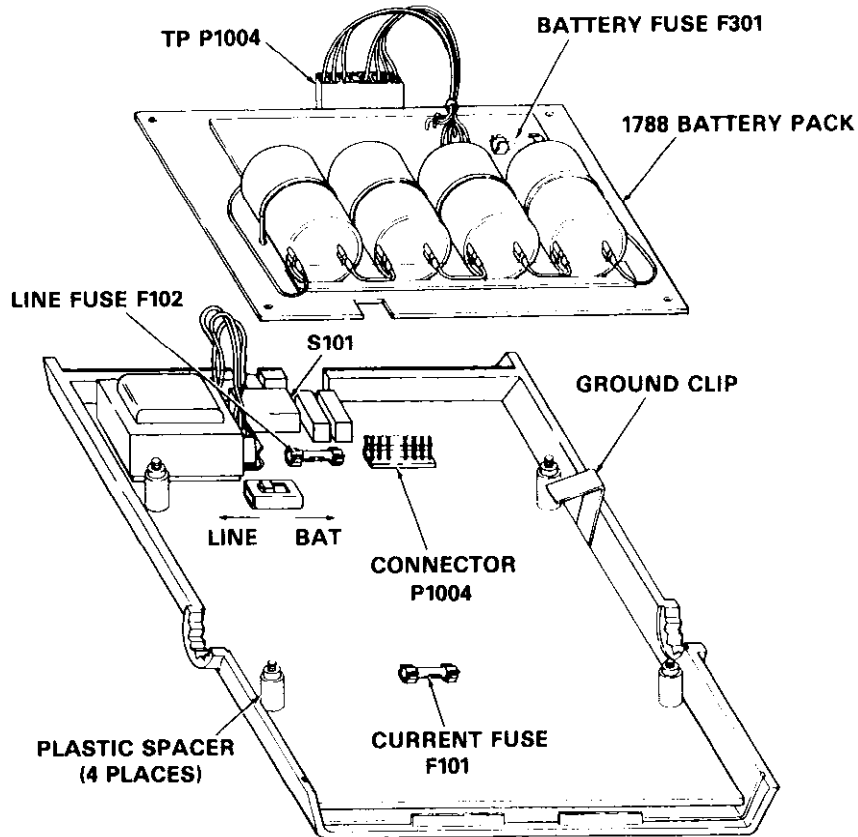

Figure 5-4. Battery Pack Installation
- B. Remove F301, shown in Figure 5-4, and replace it with a 2A, 250V, 3AG fuse (Keithley part number FU-13).
5. Set the BAT/LINE switch to the BAT position shown in Figure 5-4. Note that the battery pack will not operate properly if this switch is not in the BAT position.